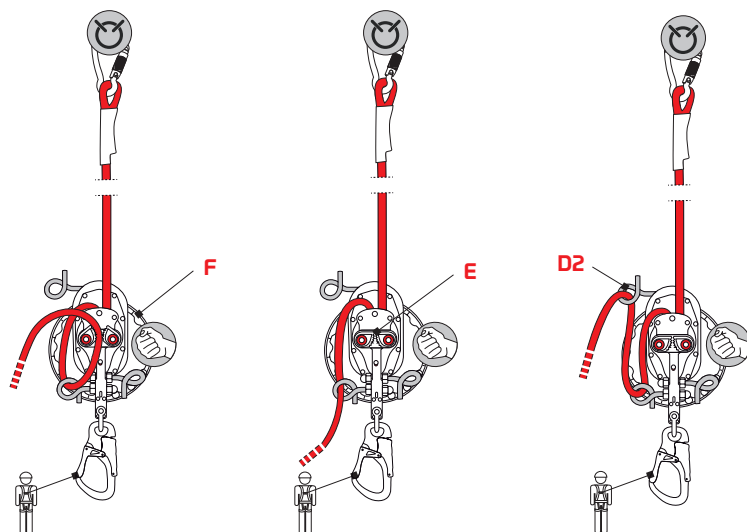
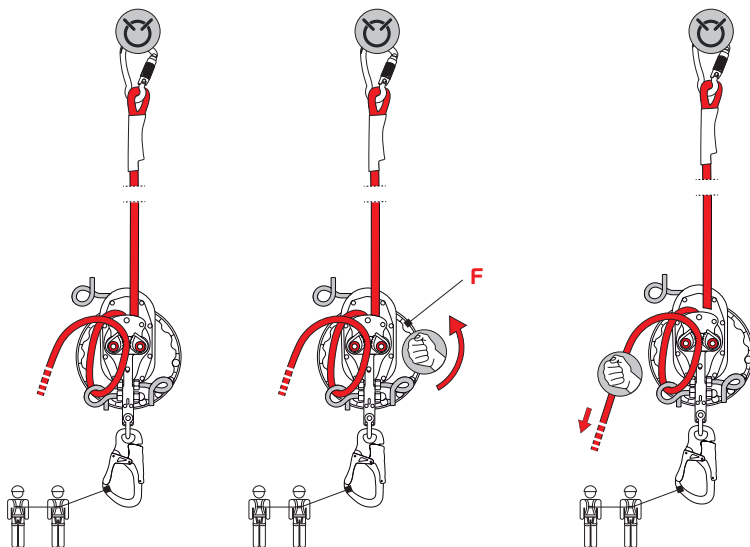

Fig.9
Fig.11
- while holding the handwheel (F), let the rope out the rope clamp (E) and in the pigtail bolt (D2) – fig. 9,
- k) spin the handwheel (F), using the crank (G) when appropriate, and every turn, tighten the loose rope (this operation allows to unload weight of the injured person from his fall arrester) – fig. 11,
a) while holding the handwheel (F), let the rope out the rope clamp (E) and in the pigtail bolt (D2) – fig. 9,
b) release the handwheel (F),
a) spin the handwheel (F), using the crank (G) when appropriate, and every turn, tighten the loose rope – fig. 11.